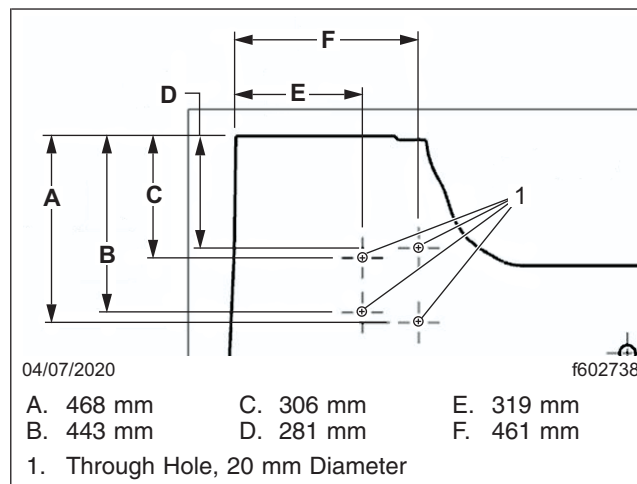

Fig. 6, Push Nut Hole Dimensions, LHD Vehicles
3. For LHD vehicles, drill four holes of 20 mm each through the floor mat with accordance to the dimensions shown in **Fig. 6** .